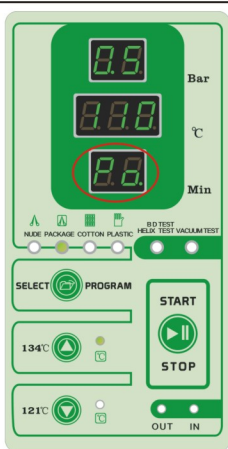

Fig. 7.4-3
(3)**First times Heating stage:** When the end of the vacuum pump to work 4 minutes,the control system will open water pump solenoid valve(Ev2) and steam generator start inject the steam into chamber,temperature display window show high temperature and up.pressure display window show high pressure and up.operation display window show “Po” .(Fig.7.4-3)
(6)**Second times Heating stage:** When the end of the vacuum pump to work 3 minutes,the control system will open water pump solenoid valve(Ev2) and steam generator start inject the steam into chamber,temperature display window show high temperature and up.pressure display window show high pressure and up.operation display window show “Po” .(Fig.7.4-3)